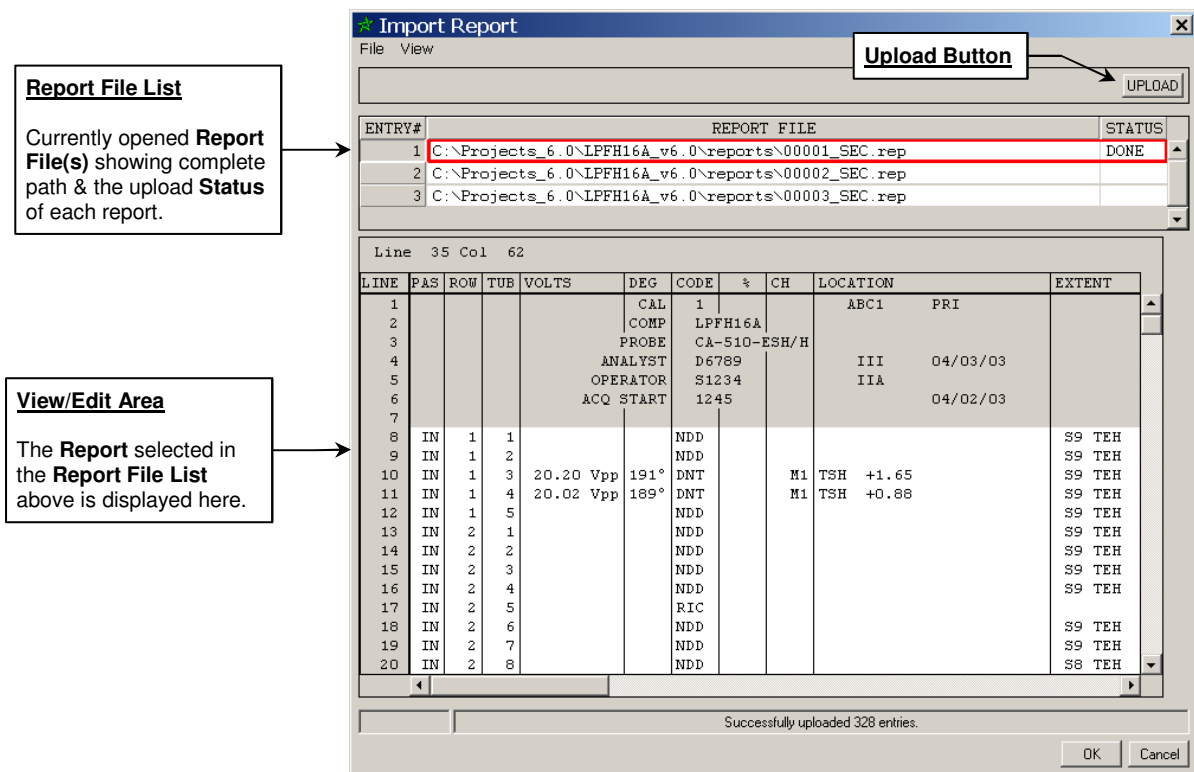

Figure 29. Database | Upload Reports | Import Report Dialog with a Report Opened
In Figure 29, three (3) typical analysis reports (*CoreStar-format*) have been opened using **File | Open** (*discussed earlier*) on the menu bar of the **Import Report** dialog. As shown, you may open more than one (1) report at a time. In the **Open** dialog, displayed after selecting **File | Open** on the menu bar of the **Import Report** dialog, simply select additional report files by holding down either the **Control** or **Shift** keys on the keyboard while clicking the desired report files. For example in Figure 29, the first three (3) report files were selected as indicated in the upper portion of the **Import Report** dialog. Under the **Report File** column header, each report file is shown along with the complete path. To display the contents of a report shown in the **Report File** list, simply click on a report entry. The contents of the selected report file will be immediately displayed in the lower portion of the **Import Report** dialog.
To upload a selected report to the currently opened database, click the **Upload** button in the upper right of the **Import Report** dialog. As shown in Figure 29, the first report file has been uploaded as indicated by 1) **Done** displayed in the **Status** column beside the first report file, and 2) a *Successfully uploaded xxx entries* message is displayed in the **Status Bar** at the bottom of the dialog.
The **View/Edit Area** in Figure 29 is the large area in the center of the **Import Report** dialog. The report selected in the **Report File List** in the upper portion of this dialog is displayed in this area. Lines in the report with a gray background will not be uploaded into the database. For example in Figure 29, lines 1 through 7, which make up an embedded report header, are grayed-out and will not be uploaded.